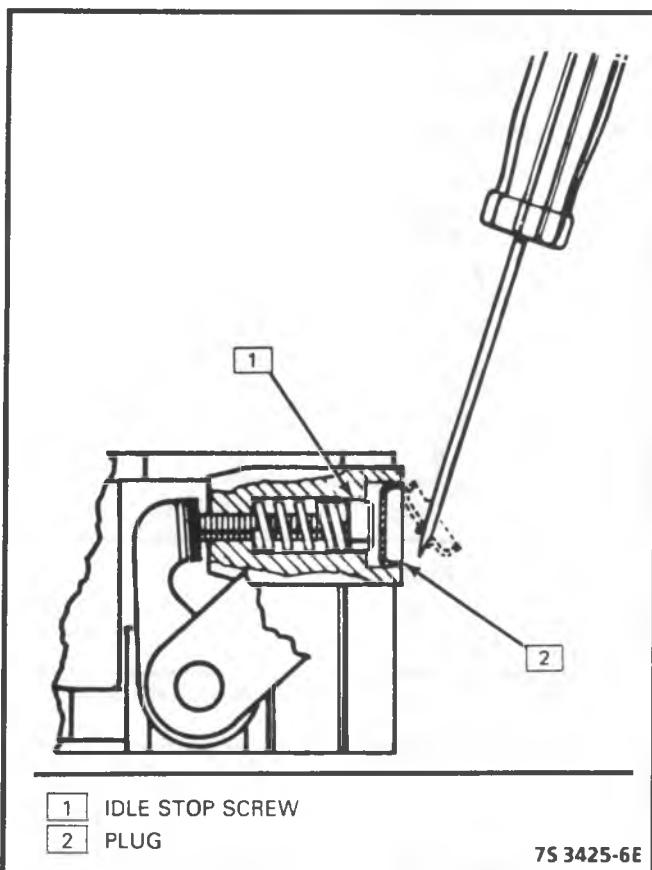

Figure 4-27 - Removing Idle Stop Screw Plug-TBI 220
7. Remove plug by first piercing it with awl, then, applying leverage (Figure 4-27).